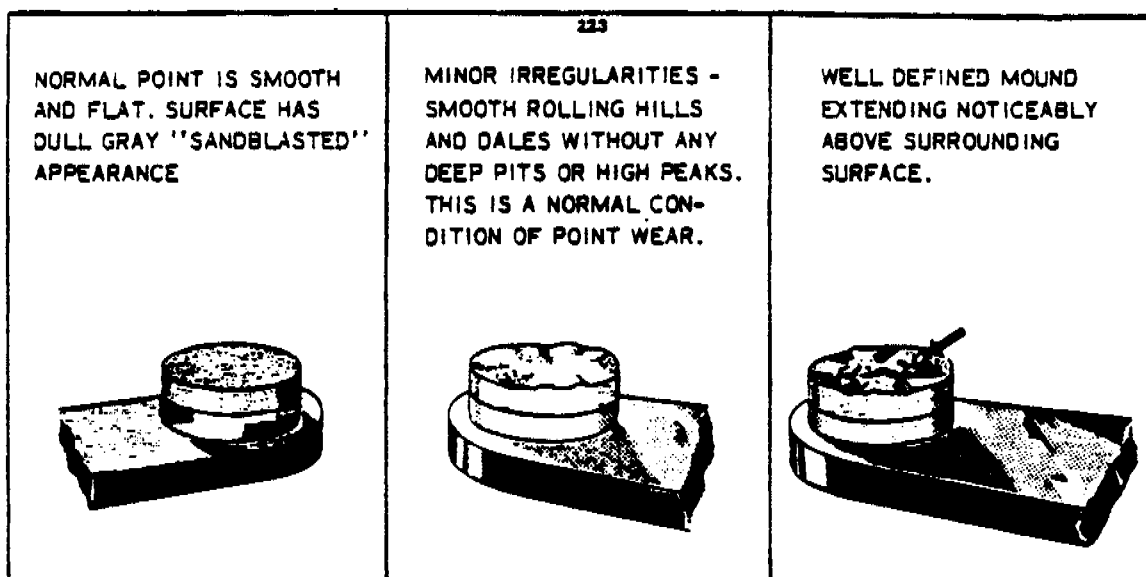

FIGURE 7C-9. CONTACT POINTS
e. Remove the breaker cover and harness securing screws and nuts, and separate cover from magneto housing. Check contact assemblies to see that cam follower is securely riveted to its spring. Examine the contact points for excessive wear or burning. Figure 7C-9 shows how the average contact point will look when surfaces are separated for inspection. Desired contact surfaces have a dull gray, sand-blasted (almost rough) or frosted appearance, over the area where electrical contact is made. This means that points are worn in and mated to each other, thereby providing the best possible electrical contact and highest efficiency of performance.
f. Minor irregularities or roughness of point surfaces are not harmful (refer to Figure 7C-9 center). Neither are small pits or mounds, if not too pronounced. If there is a possibility of pit becoming deep enough to penetrate pad, Figure 7C-9, right, reject contact assembly.